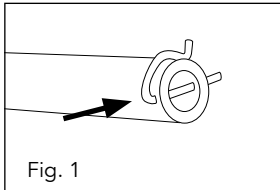

Fig. 1
1. Place a R-clip (31) for fitting the wheels through the appropriate hole in the axle (33) (Fig. 1).